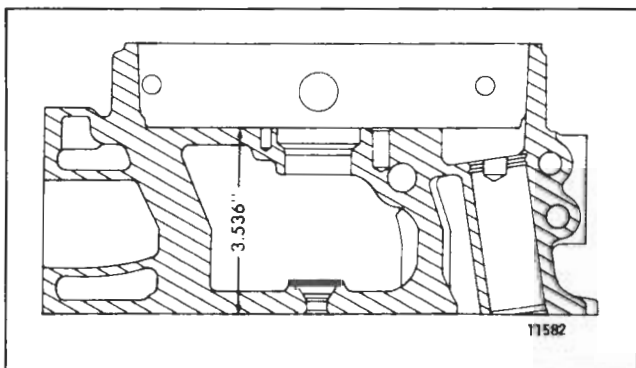

Fig. 8 - Minimum Distance Between Top and Bottom Faces of Cylinder Head
- If the cylinder head is to be refaced, remove the injector tubes prior to machining. Do not remove more than .020 " (total) of metal from the fire deck of any cylinder head. The distance from the top deck to the bottom (fire deck) of the cylinder head must not be less than 3.536 " (Fig. 8). Stamp the amount of stock removed on the face of the fire deck near the outer edge of the head, in an area not used as a sealing surface.